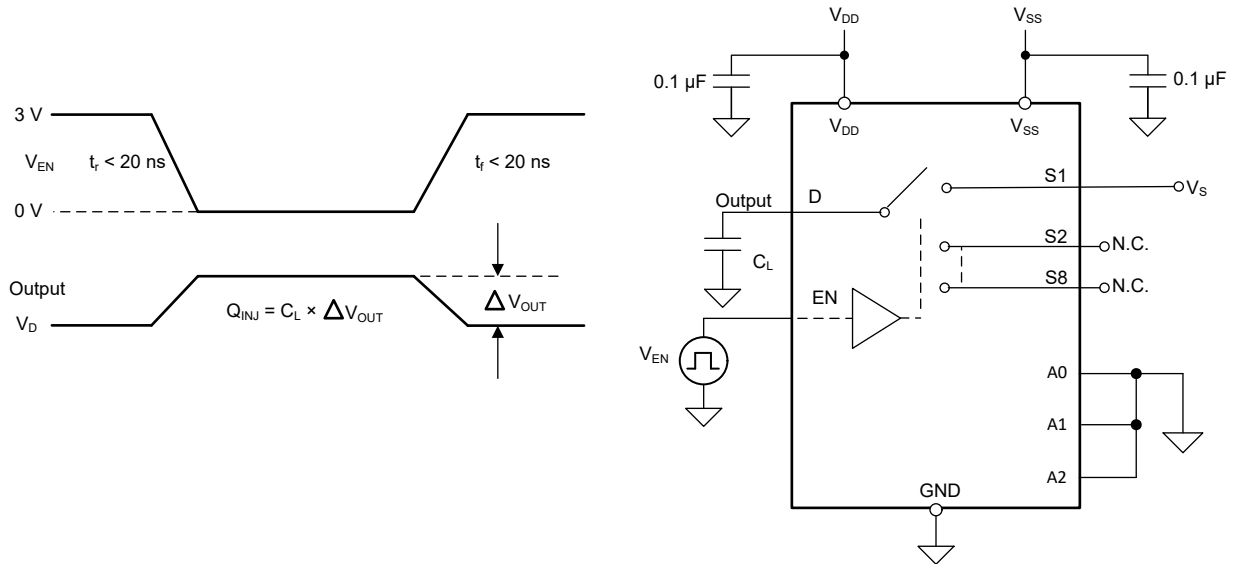

图 8-9. Charge-Injection Measurement Setup
The TMUX6208 and TMUX6209 have a transmission-gate topology. Any mismatch in capacitance between the NMOS and PMOS transistors results in a charge injected into the drain or source during the falling or rising edge of the gate signal. The amount of charge injected into the source or drain of the device is known as charge injection, and is denoted by the symbol  $Q_{INJ}$ . 图 8-9 shows the setup used to measure charge injection from source (Sx) to drain (D).